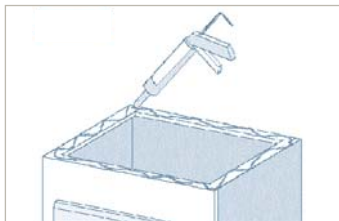

Figure 1
5. Wipe off the top of the vanity cabinet with a damp cloth to remove any dirt. Apply a generous ($\frac{1}{2}$ ") bead of silicone around the top edges of the vanity cabinet. See Figure 1.